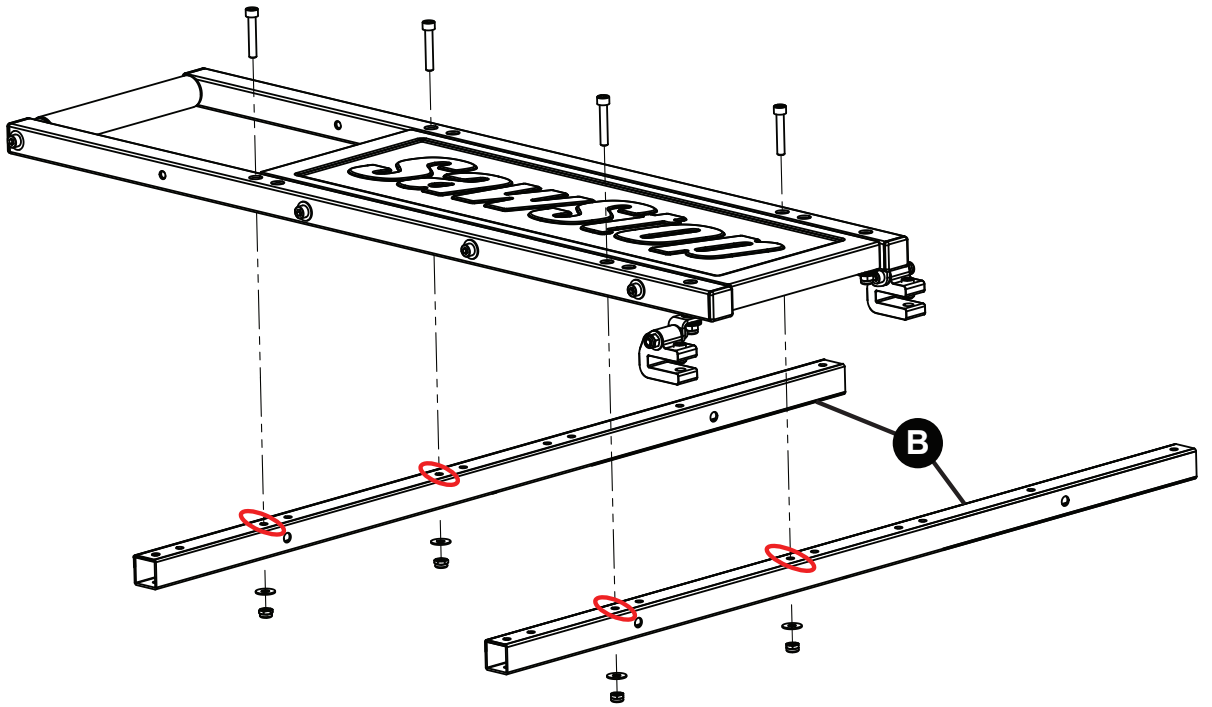

Fig. 47
- 13** Position the two table tubes attached to the insert table across the two table support tubes, as shown in Fig. 47, with the insert table and rear rail clamps on the end closest to the table saw.